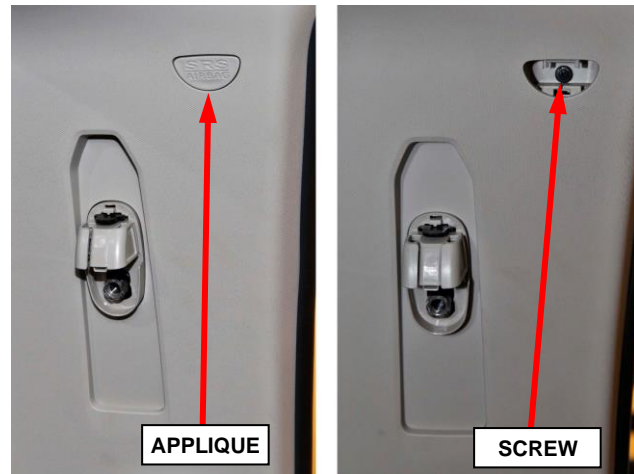

Figure 5 – B-Pillar Upper Trim Panel Fastener
7. Using a trim stick or equivalent, release the B-pillar airbag applique then remove the screw that secures the upper trim panel (Figure 5).